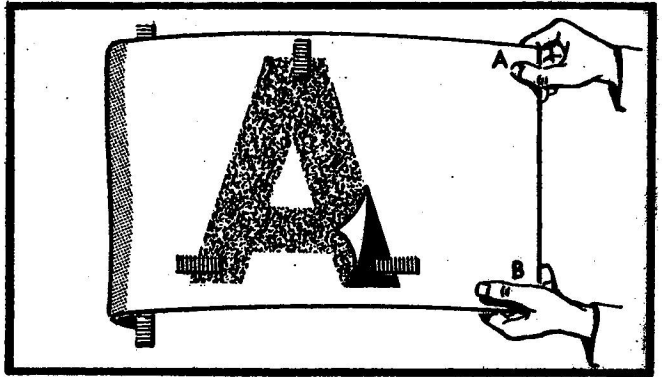

Figure 4
- (g) Fold the application tape (Item 4) over the hinge so that the paper liner on the decalcomania is exposed. Take care not to pull off the hinge. Now remove the paper liner, see Figure 4.